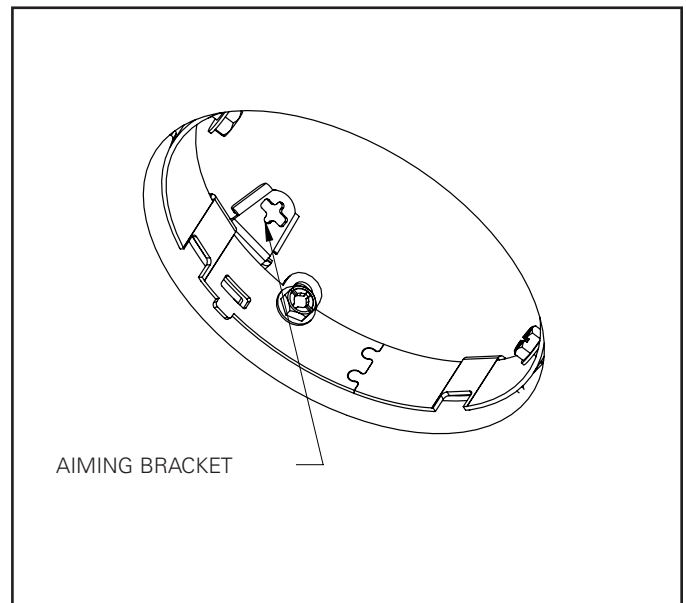

Figure 15B.
2. Turn the mechanism to the desired position using the aiming bracket and screwdriver (Figure 15B). Tighten wing screw.